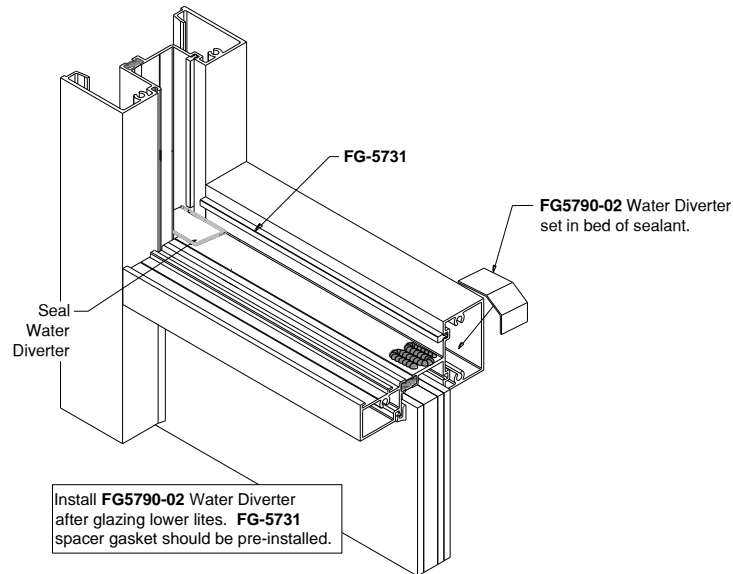

Figure 24: Water Diverter Installation
NOTE: When installed, vertical Gasket runs through while horizontal Gasket butts into the vertical Gasket. Reference Figure 24 for representation of the Gasket corner.
16.2.3 Install **FG5790-02** Water Diverters at intermediate horizontals after lower lite is in position. Place a bed of sealant on the end of the Horizontal and place the Water Diverter per *Figure 24*.
17.1.3 Install Water Diverters after lower lite is in position. Place a bed of sealant on the end of the Horizontal and place the Water Diverter per Figure 24, page 31.